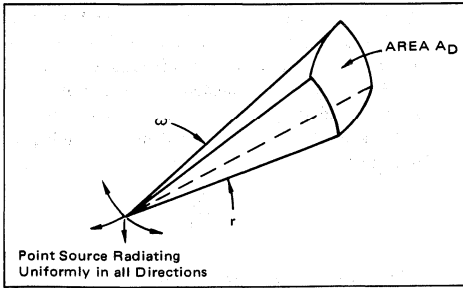

FIGURE 9 – Point Source Geometry
Figure 9 depicts a point source radiating uniformly in every direction. If equation (3) is satisfied, the detector area, AD, can be approximated as a section of the area of a sphere of radius r whose center is the point source.